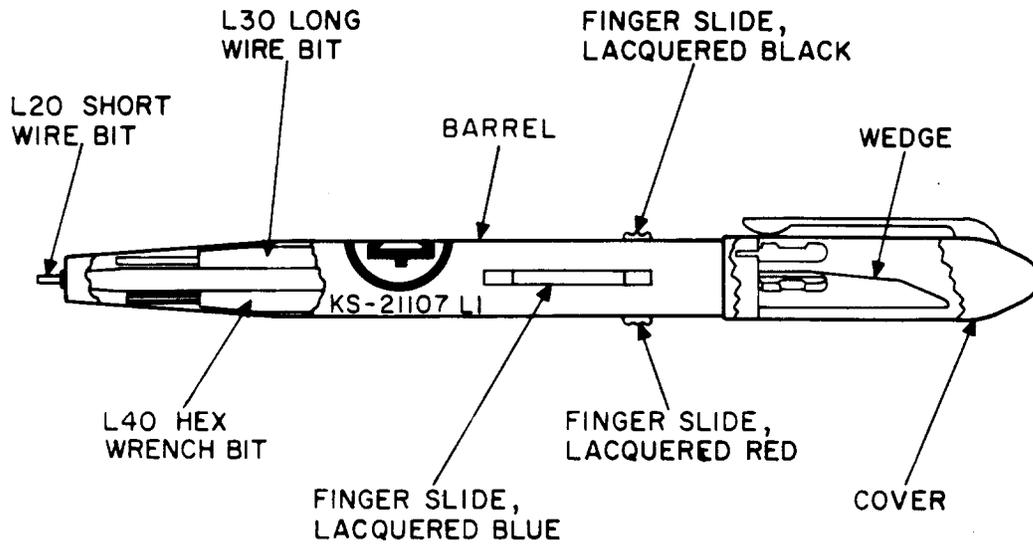

Fig. 1—KS-21107 L1 Releaser
1.01 This section covers the KS-21107 L1 Releaser (Fig. 1) which can be used for a variety of telephone station tasks.